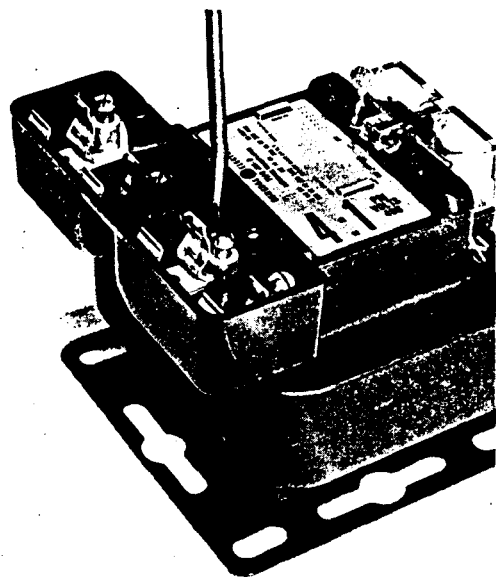

Figure 2
2. Tighten down the primary terminal screws on the fuse clip tangs. See Fig. 2.